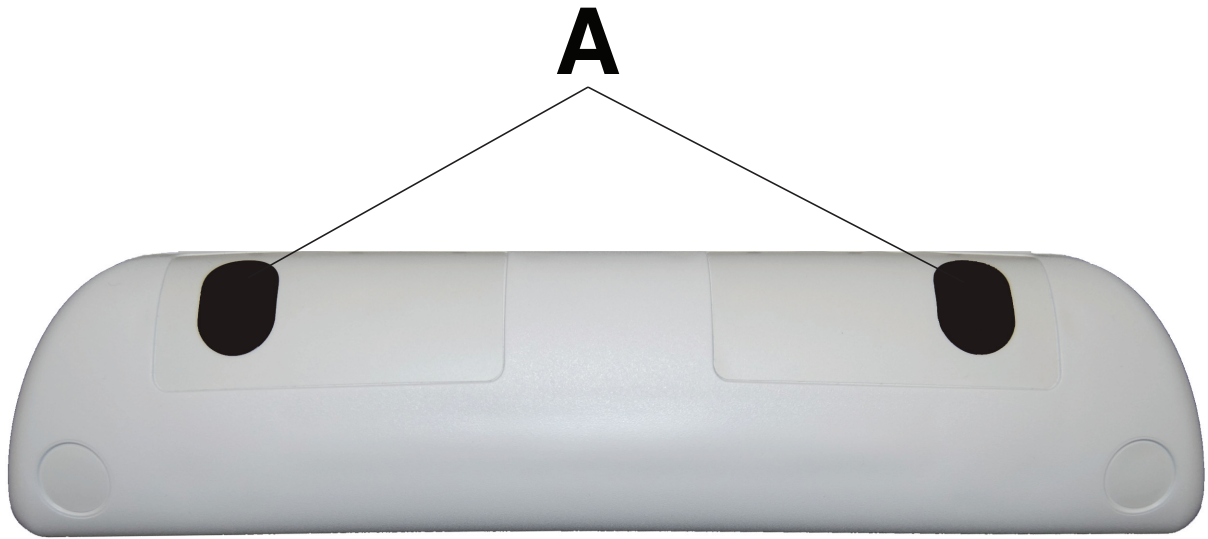

Figure 67 – iBed Locator
The IR (infrared) lens (A) provides infrared communications with the **iBed** IR module (Figure 67).